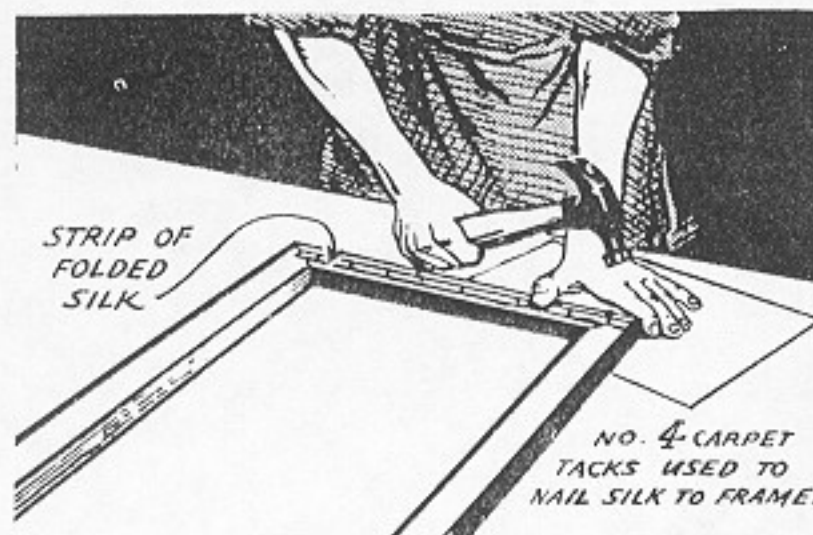

Fig. 30. Tack Silk to Frame
1. Fold a strip of silk lengthwise and tack it on the frame, as shown in Fig. 30. This strip acts as a cushion and prevents the stretched silk from tearing when it is tacked to the frame. There should be at least two thicknesses of silk in the pad. Tack such a strip on all four sides of the frame.